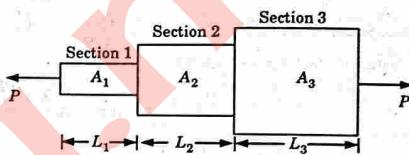

Fig. 1.17.1.
- A bar of different lengths and of different diameters (and hence of different cross-sectional areas) is shown in Fig. 1.17.1.